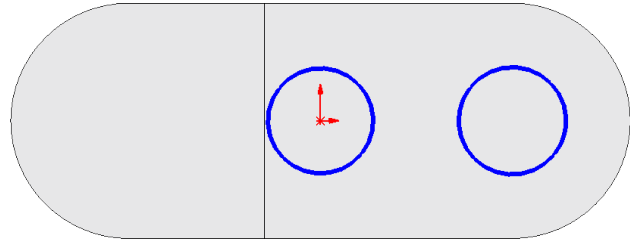

Fig. 17
Step 3. Click **Circle**  (S) on the Sketch toolbar.
Step 4. Sketch **circle at Origin**  and **circle concentric with right circular edge**, **Fig. 17**. To wake up centerpoint of edge, hover cursor over circular edge.